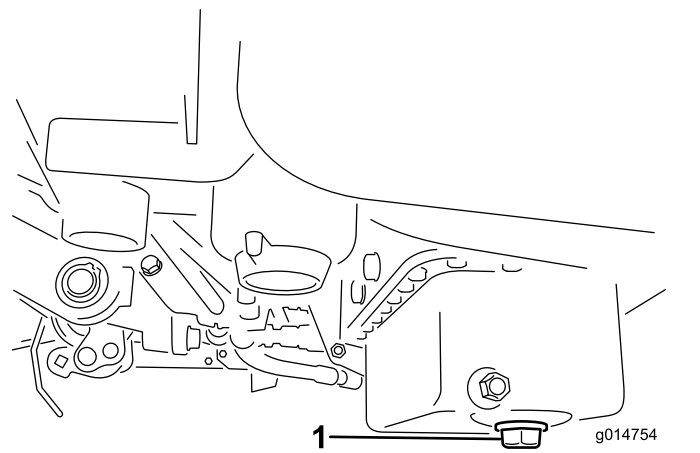

Figure 36
1. Remove the drain plug and let oil flow into a drain pan. When the oil stops, install the drain plug (Figure 36).